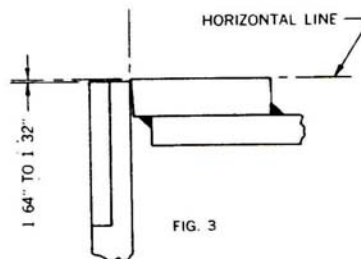

Figure 3: Showing bending leaf adjustment by lowering the bending leaf to see if it is flush, or slightly below the bottom bar when in the down
3. – Lower the bending leaf and see that it is flush, or slightly below the bottom bar when in the down position (as shown in Figure 3).